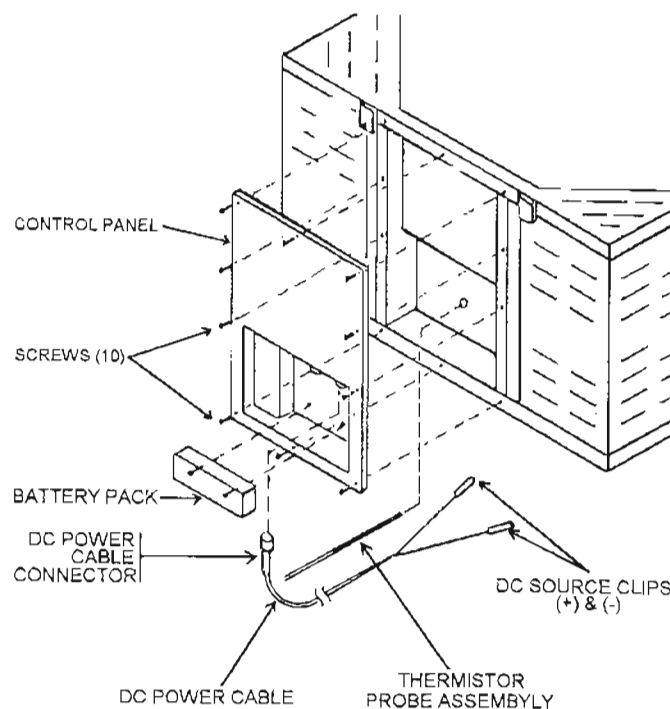

Figure 3-17. Removal of control panel.
- (1) Remove the ten screws securing the control panel (fig 3-17) to the unit.
- (1) Remove 10 screws securing the control panel (fig 3-17) to the unit.